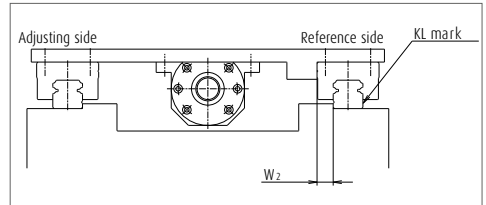

Fig. 2 Most common setting of the reference side rail
- When the datum surfaces of the reference side rail and slides are pressed to their mounting surfaces respectively, the variation of distance (mounting width W_2 or W_3) between the datum surfaces of the rails and that of the slides must be a minimum and therefore, it is specified as the standard. (Figs. 2 and 3)